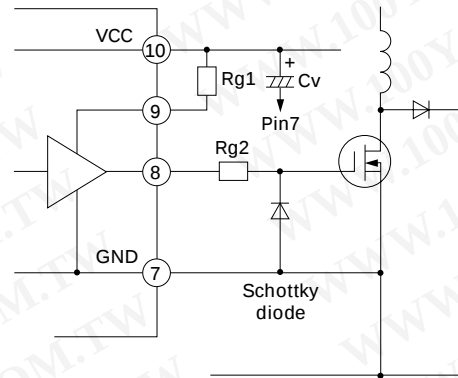

Fig. 8 Output circuit
As Fig. 8 shows, pin 9 is configured as the high power terminal (VC), independent of the IC power terminal (VCC). This pin allows an independent drive resistance when the power MOSFET is ON and OFF. If the drive resistances in the ON and OFF states are R_{g1} (on) and R_{g2} (off), the following formulas can be used to determine the total gate resistance R_g :